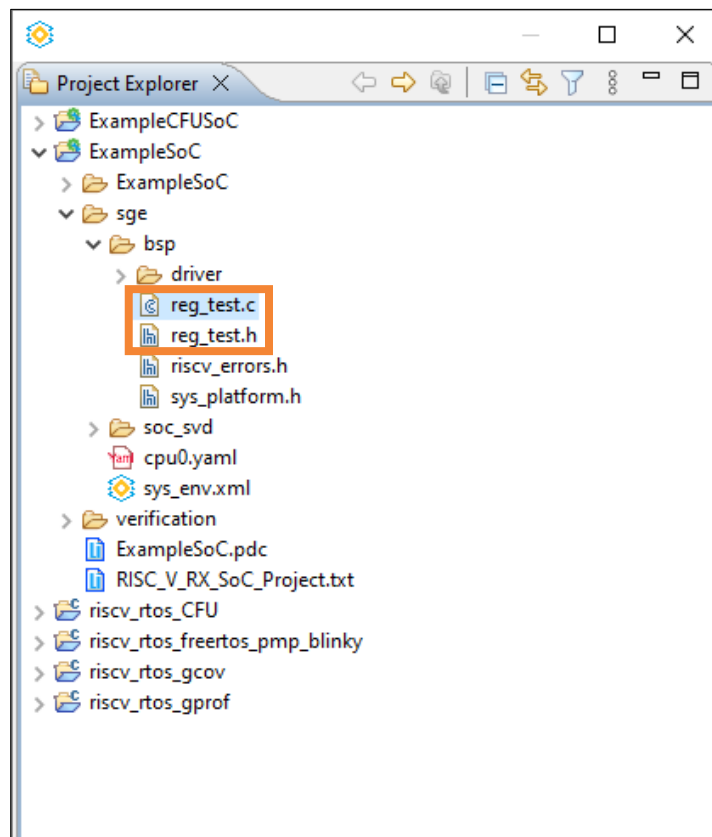

Figure F.1. Project Explorer
2. Build this SoC project by Lattice Propel SDK or Builder. Then, you can find the test files shown in Figure F.1. If you enable register access test, the code shown in Figure F.2 is used. This code is generated automatically and do not edit it. Lattice Propel SDK collects testable register address from used IP, tries to write and read back, and compares these data to get the result of this test.